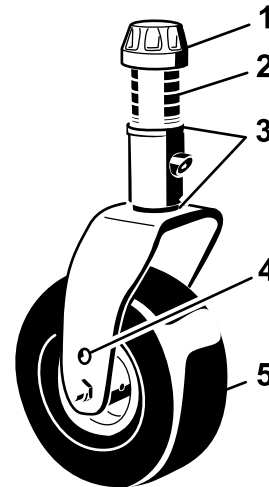
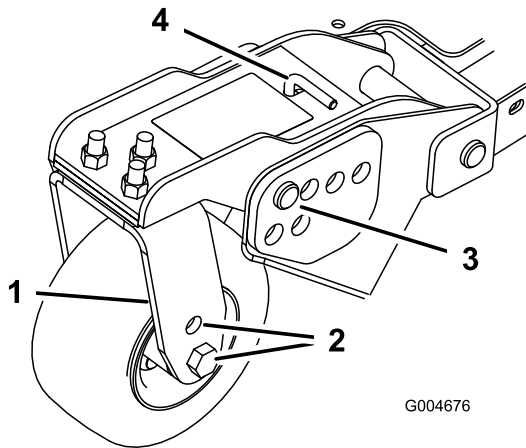
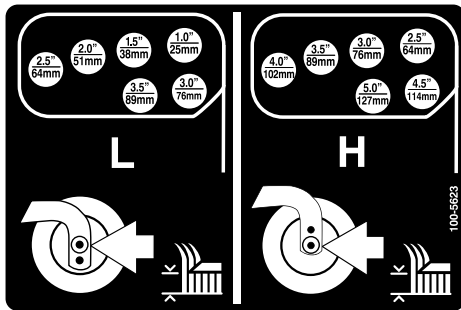

Figure 21
Figure 23
Figure 24
- Position the castor wheel axles in the same holes in all of the castor forks (Figure 21 and Figure 23). Refer to the following chart to determine the correct hole for the setting.
- Remove the tensioning cap from the spindle shaft (Figure 21) and slide the spindle out of castor arm. Put the two shims (3 mm [1/8 inch]) onto spindle shaft as they were originally installed. These shims are required to achieve a level across the entire width of the cutting units. Slide the appropriate number of 13 mm (1/2 inch) spacers onto the spindle shaft to get the desired height-of-cut; then slide the washer onto the shaft.
4. Remove the hairpin cotter and clevis pins from the castor pivot arms (Figure 23).
5. Rotate tension rod to raise or lower pivot arm until holes are aligned with selected height-of-cut bracket holes in the cutting unit frame (Figure 23 and Figure 24).
Adjust the skids by removing the flange bolt and nuts, positioning them as desired, and installing the fasteners (Figure 24).